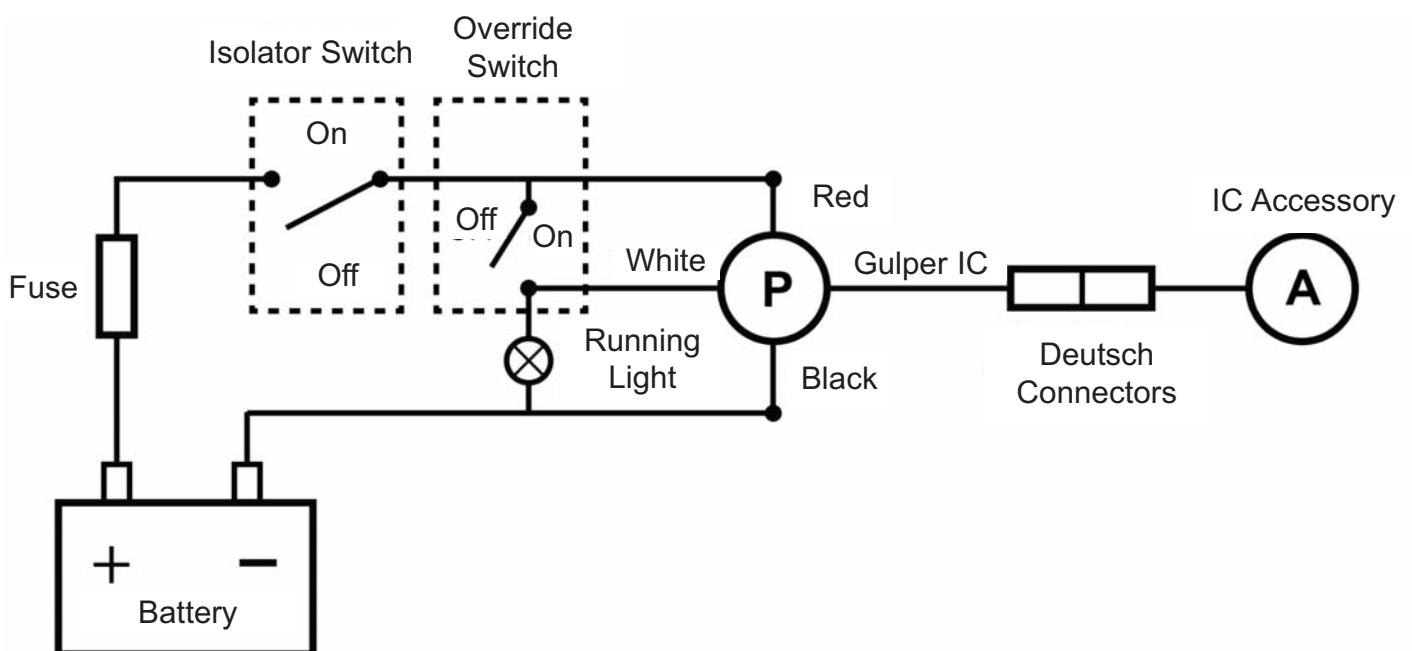

Fig 6a Wiring Gulper® IC to Whale® IC accessories
- Fig 6a Wiring Gulper® IC to Whale IC Accessories